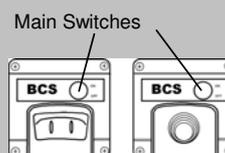

Fig. 35
- Switch on the main switch (Fig. 35).